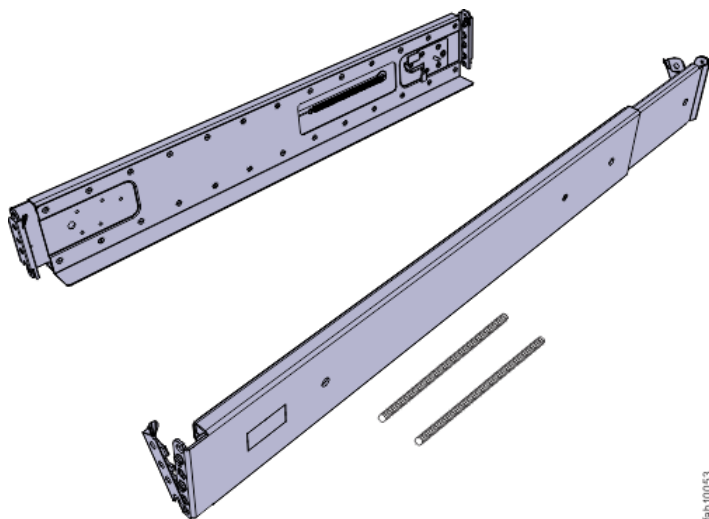

Figure 29. Expansion enclosure support rails
1. Locate the expansion enclosure rails (Figure 29 on page 66).